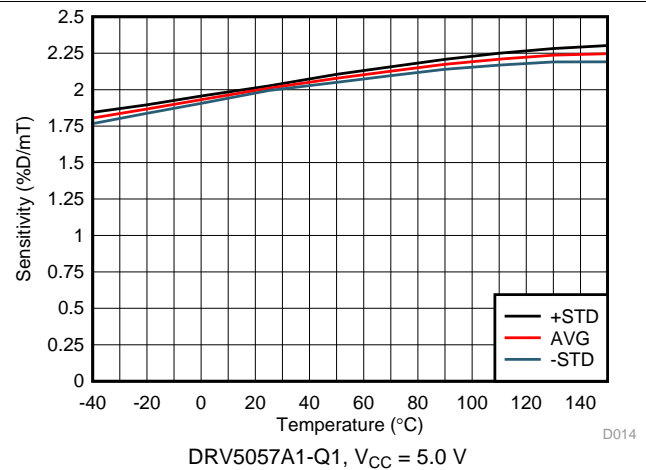

Figure 4. Sensitivity vs Temperature
(1) This unit is a percentage of duty cycle.
(2) B is the applied magnetic flux density.
(3) See the Sensitivity Linearity section.
(4) B_L describes the minimum linear sensing range at 25°C taking into account the maximum V_Q and sensitivity tolerances.
(5) S_{TC} describes the rate the device increases Sensitivity with temperature. For more information, see the Sensitivity Temperature Compensation for Magnets section and Figure 4 to Figure 11.